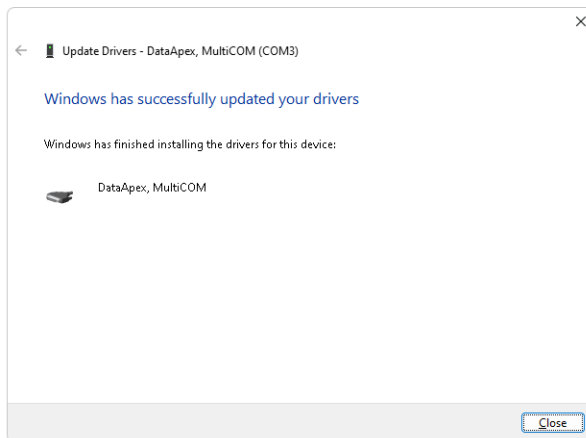

Fig. 10: Successful reinstallation of a MultiCOM driver.
- Upon successful reinstallation of drivers for **MultiCOM** you will be presented with dialog as seen in **Fig. 10** on pg. 11.